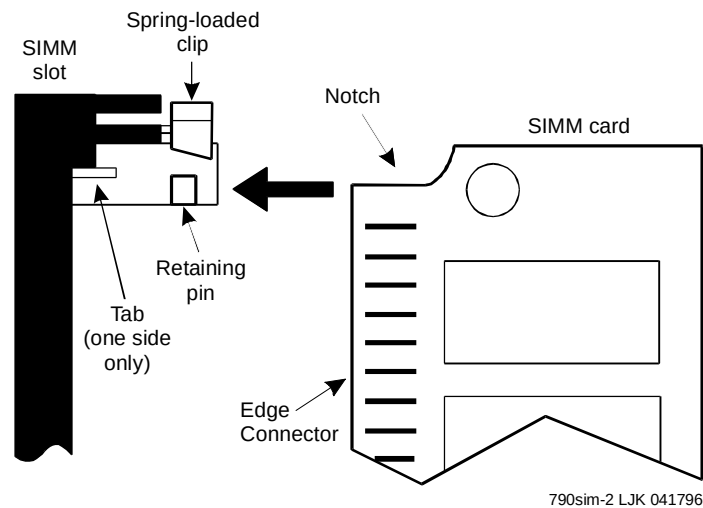

Figure 10-8. Align the SIMM with the SIMM Socket
3. Locate the Notch cutout area on one corner of the SIMM. See Figure 10-8. See WARNING.
(See Figure 10-8).